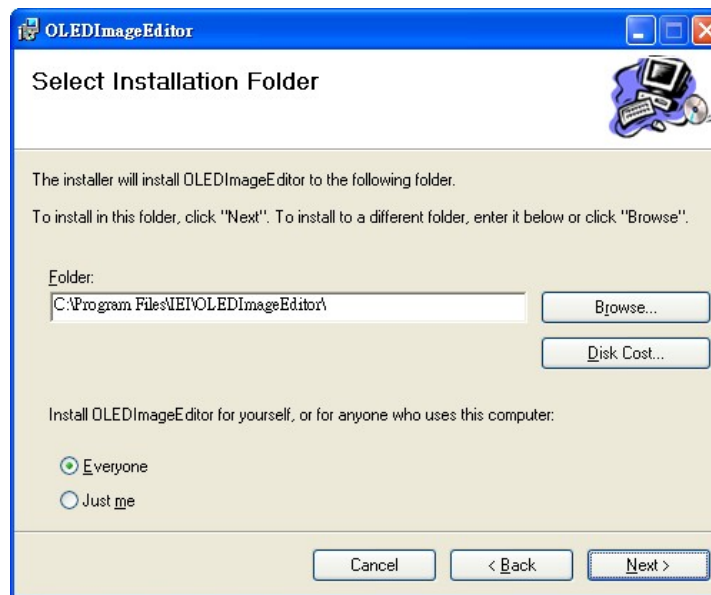

Figure 6-2: Select Installation Folder
Step 4: Select a folder for OLED Image Editor Installation in **Figure 6-2**. Click **Next** to continue.
The DRPC-100 embedded system motherboard comes with a number of peripheral interface connectors and configuration jumpers. The connector locations are shown in **Figure 6-1** and **Figure 6-2**. The Pin 1 locations of the on-board connectors are also indicated in the diagrams. The connector pinouts for these connectors are listed in the following sections.